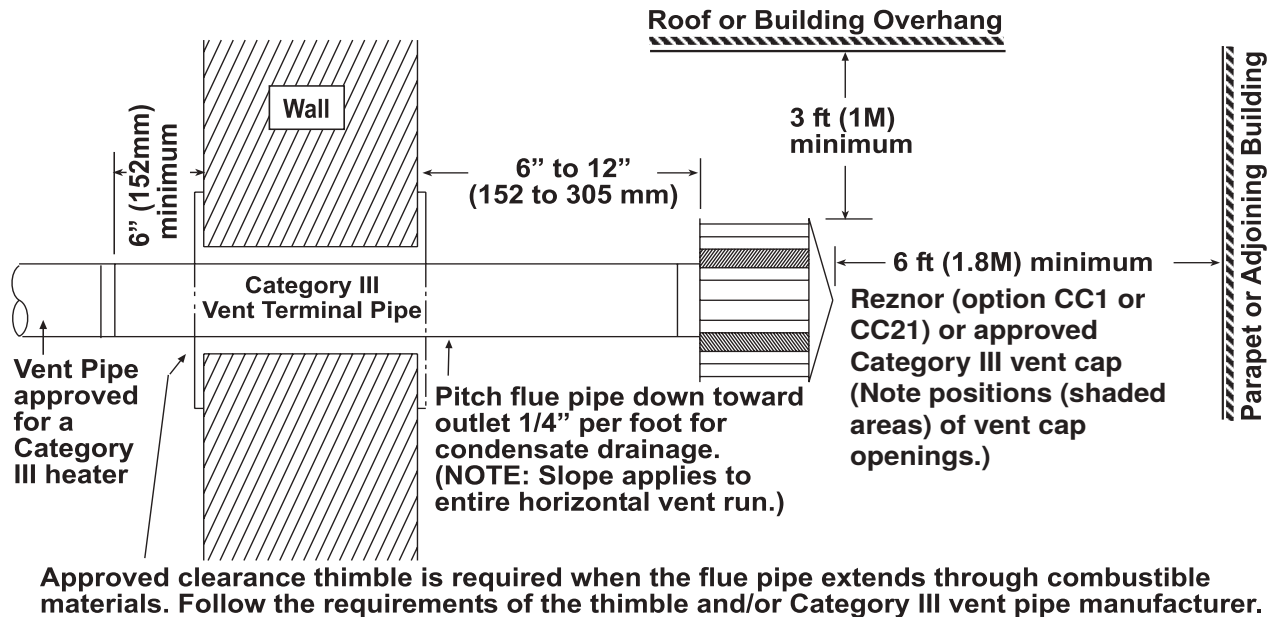

Figure 17. Horizontal Vent Terminal (Residential Installations)
- b. Refer to instructions shown in Figure 17 and to Table 13 to install horizontal vent terminal.